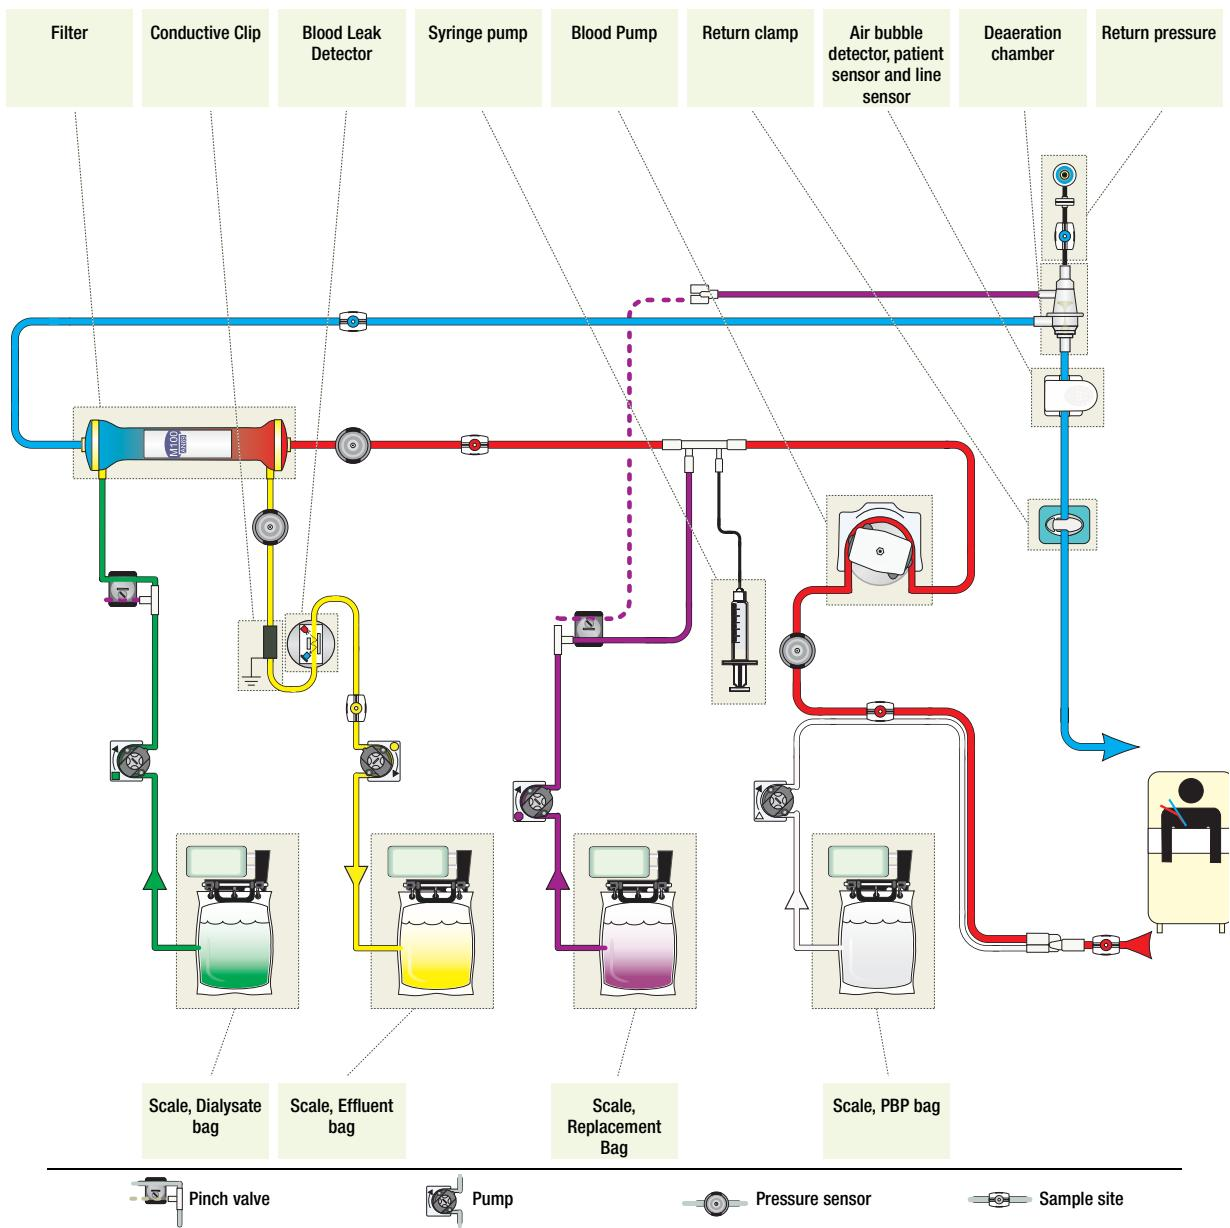

Figure 1.4 CVVHDF flow
- CVVHD+ post: having an implementation similar to CVVHDF in CRRT with post-filter replacement infusion only (see Figure 1.4 on page 19)